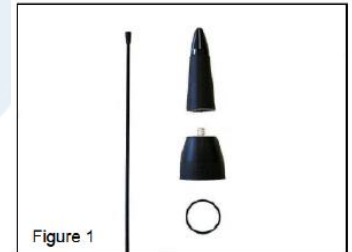

Figure 1
**1. Parts (Figure 1):**
Verify all parts are included with the Antenna as shown in figure 1.